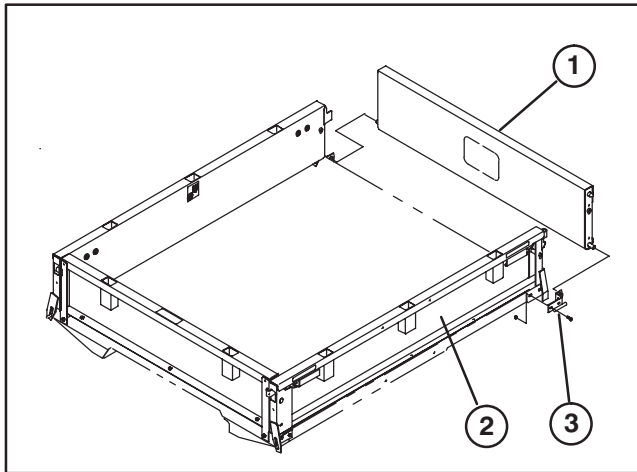

Figure 5
6. Insert tailgate pivot shaft into right rear pivot bracket. Position left side panel onto bed while sliding front end tab over front pivot bracket (Fig. 5).
8. Slide pivot bracket over left tailgate pivot shaft and into left rear side panel tab while inserting capscrew into rear mounting hole of bed. Secure with a flange (Toplok) locknut (Fig. 5).
9. Secure pivot bracket to side of bed with (2) 5/16–18 x 7/8” lg. capscrews and flange (Toplok) locknuts (Fig. 5). Tighten all panel and pivot bracket fasteners securely.